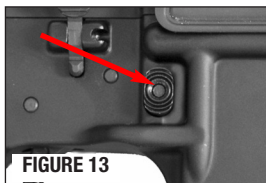

FIGURE 13
- Press the magazine release (from either side of the rifle) and remove the magazine from the firearm (FIGURE 13).